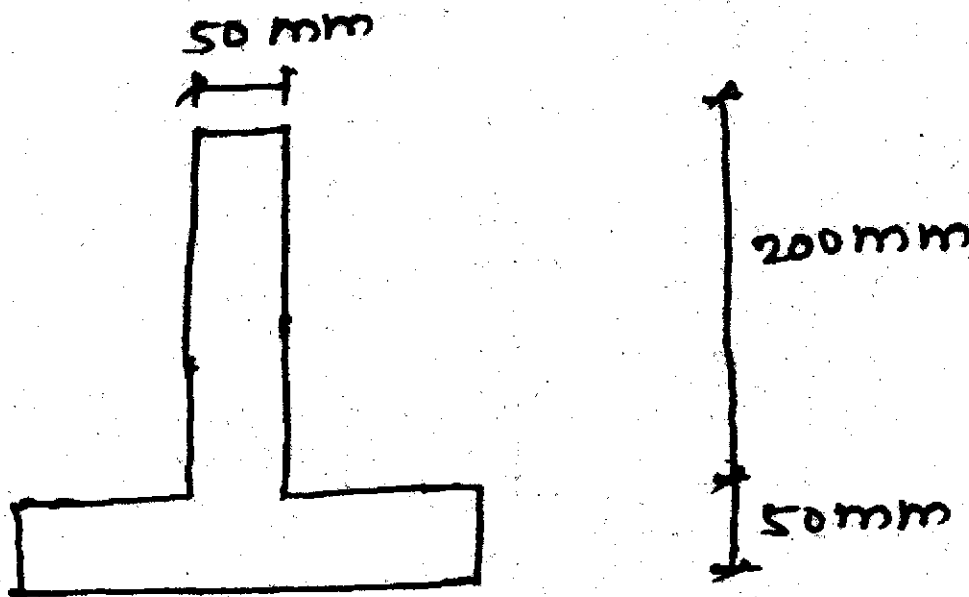

Fig. 11
8. (a) A simply supported beam carries an udl of 25 kN/m over the entire span. The cross-section of the beam is as shown in Fig. 11. If the maximum bending stress is 60 MPa , find the span of the beam. Also find the maximum shear stress developed in the section. Draw the shear stress distribution diagram. [8]